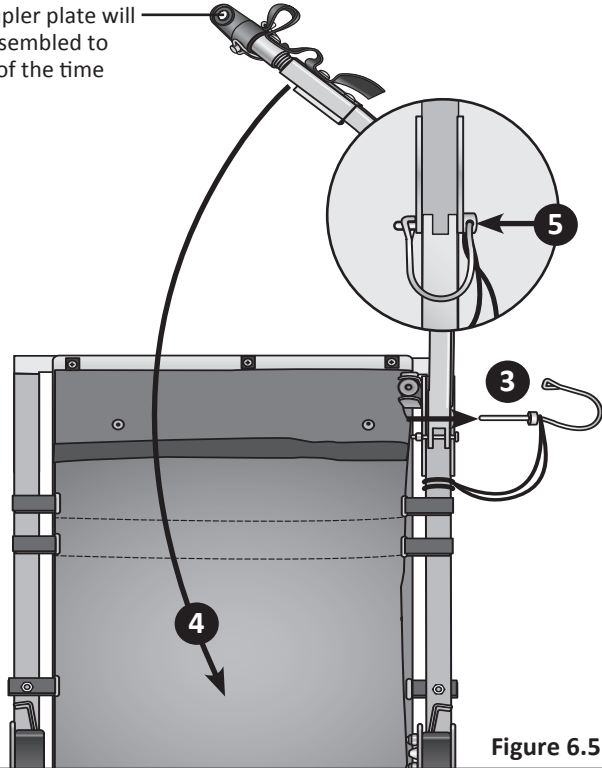

Figure 6.5
- 3 Remove the locking pin from the tow bar bracket. **Figure 6.5**